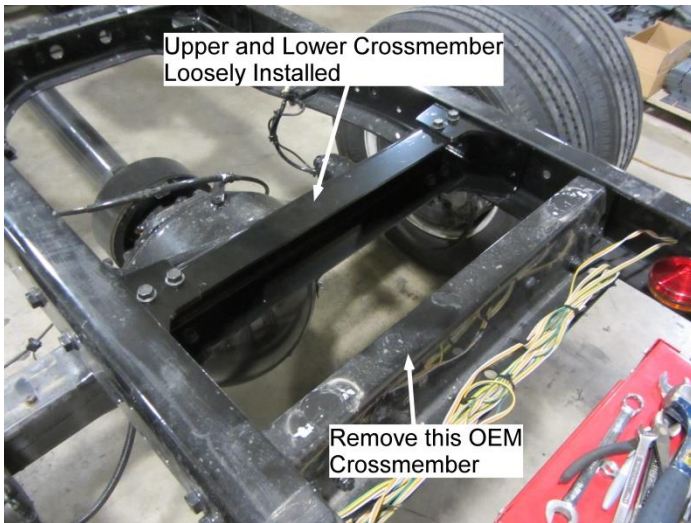

Figure 17. Removing OEM Aft of Axle Cross-member
5. Remove OEM aft of axle cross-member as shown in Figure 17.